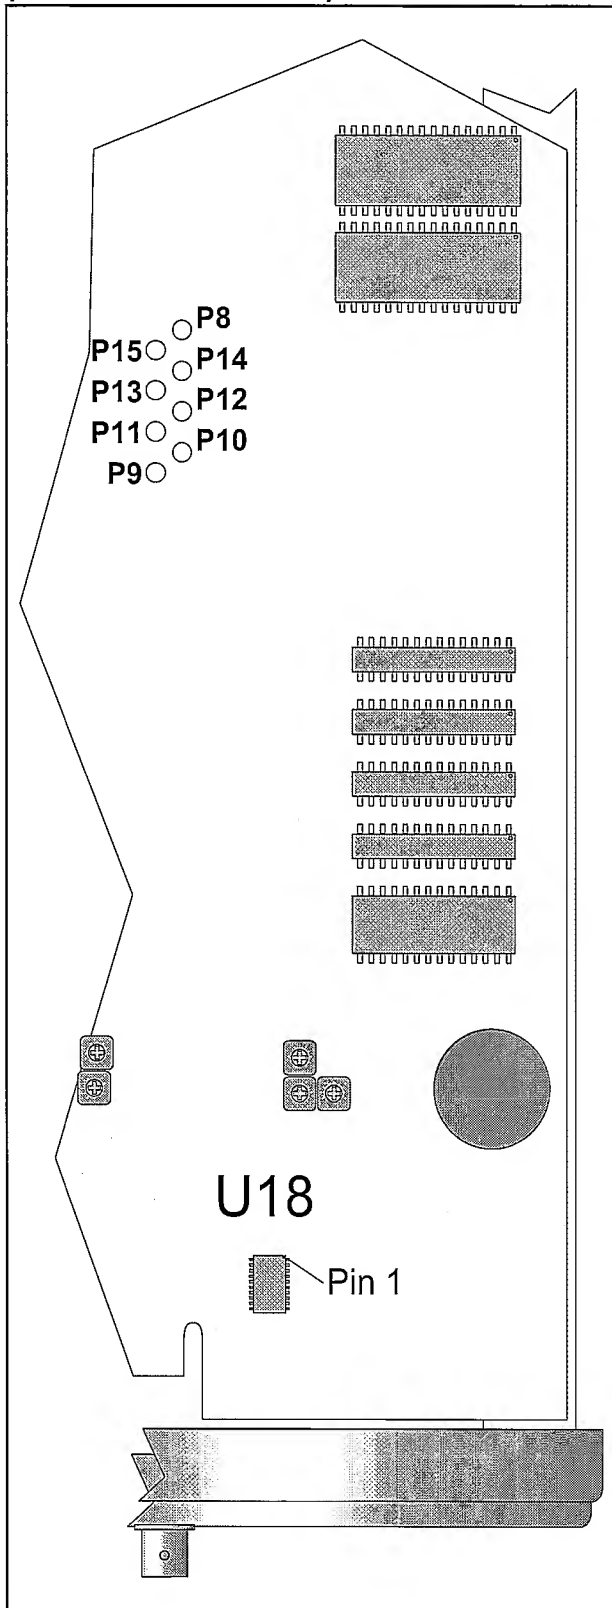

Figure 5-14 Display driving signals and internal control signals can be measured here.
- Check the output signals of U18, see Figure 5-14. Use test pin P5 to trigger the oscilloscope.